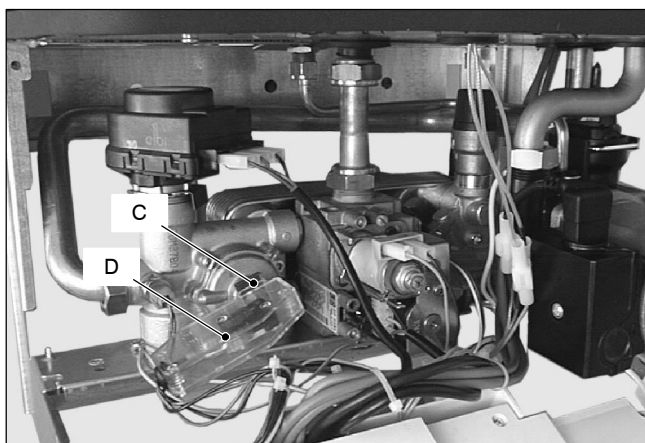

Fig. 47
- 2 Remove the fork C (Fig. 47).
- 2 Remove the fork C that holds the micro-switch housing D (Fig. 47).